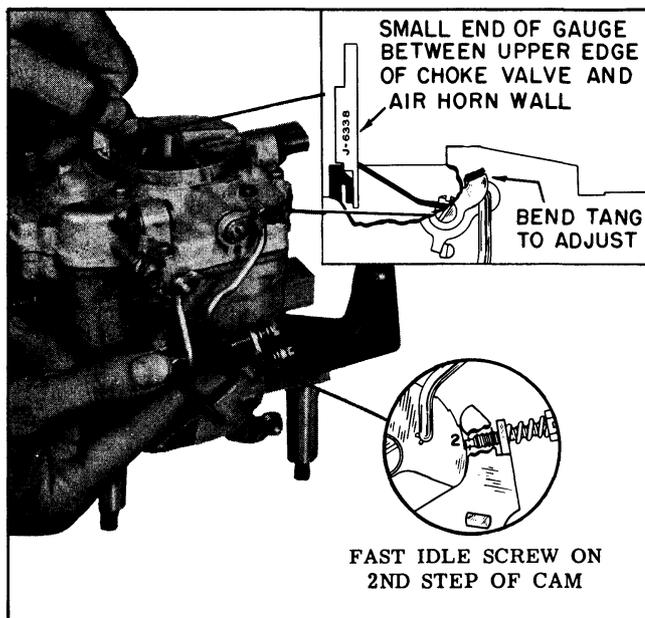

Fig. 8-142 Choke Rod Adjustment
2. Hold the fast idle cam so the shoulder of the highest step is against the fast idle screw. (See Fig. 8-142)